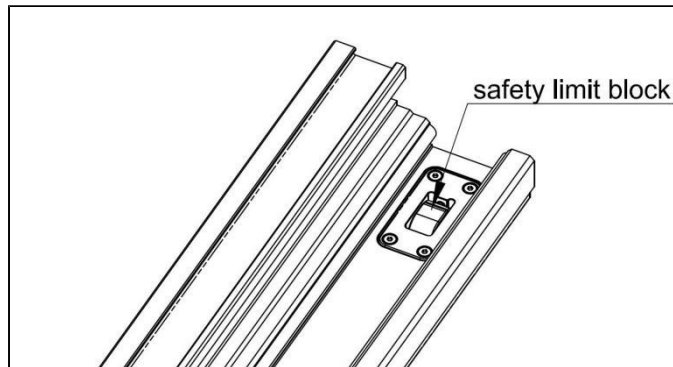
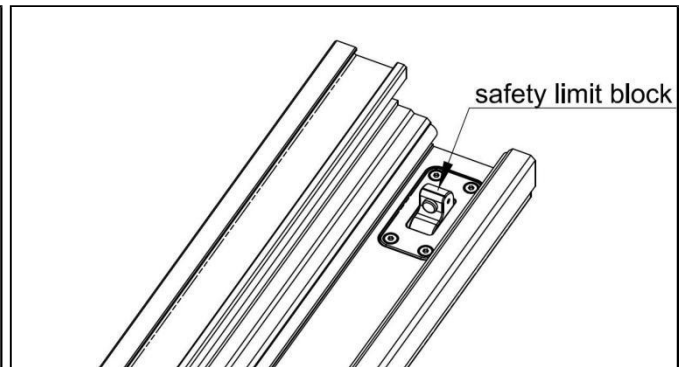

Fig. 10-2
Fig. 10-3
- ① The Fence Main Assembly D must be inserted in a parallel motion to avoid damaging the viewer.
- ② Before installation, press down the safety limit block on the guide rail (see Fig. 10-2). After installation, release the safety block to prevent the fence from sliding off the rail (see Fig. 10-3).